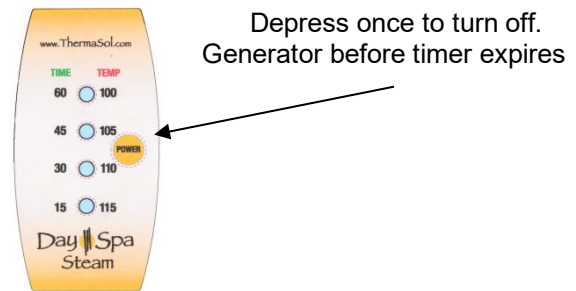

Figure 10
4. Manual Power Off. To manually power off the generator before the selected time has expired, press the “Control Button” once. The LED’s will go off and the steam will turn off. **(Figure 10)**